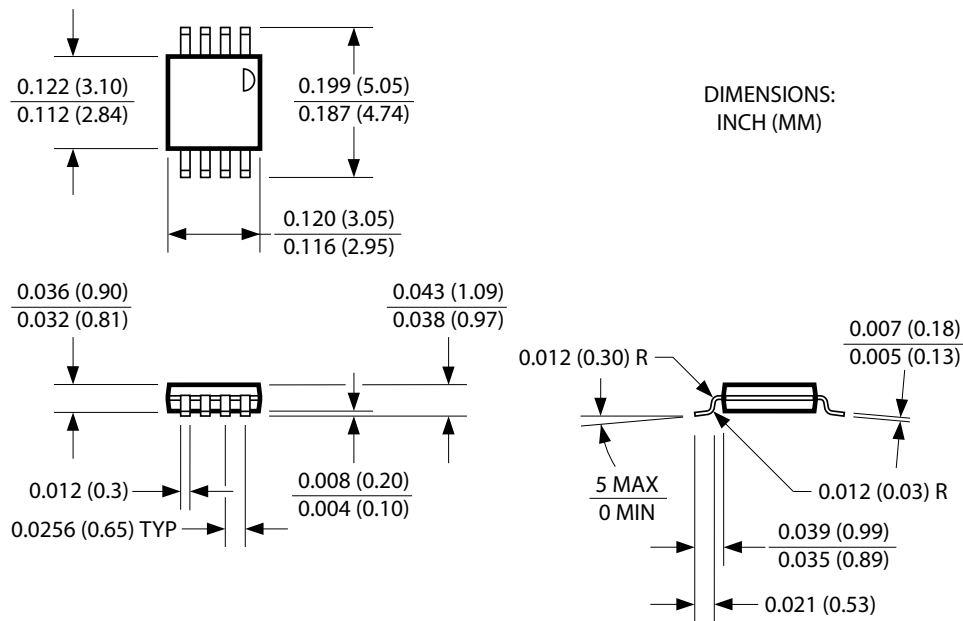

**Figure 9.  $V_{DD}$  Decoupling for Very Noisy Supplies**
7. *When the MIC184 is being powered from particularly noisy power supplies, or from supplies which may have sudden high-amplitude spikes appearing on them, it can be helpful to add additional power supply filtering. This should be implemented as a 100 $\Omega$  resistor in series with the part's  $V_{DD}$  pin, and a 4.7 $\mu$ F, 6.3V electrolytic capacitor from  $V_{DD}$  to GND. See Figure 9.*